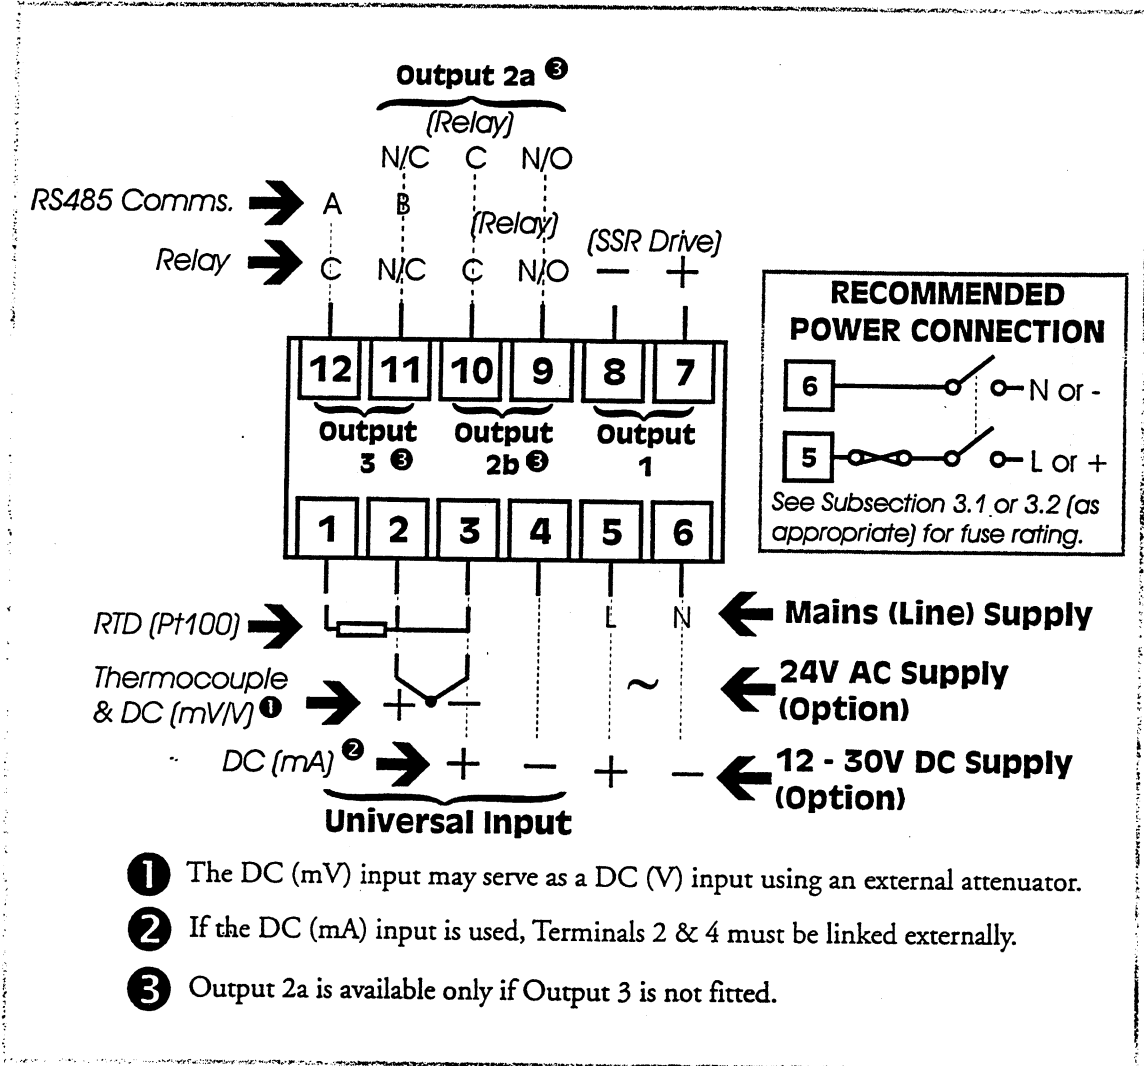

Figure 3-1 Rear Terminal Connections
CAUTION: This equipment is designed for installation in an enclosure which provides adequate protection against electric shock. Local regulations regarding electrical installation should be rigidly observed. Consideration should be given to prevention of access to the power terminations by unauthorised personnel. Power should be connected via a two-pole isolating switch (preferably situated near the Controller) and a 1A fuse, as shown in Figure 3-1.
This version operates on 12 - 24V AC 50/60Hz or 12 - 30V DC supply. The power consumption is approximately 4W. Connection should be made via a two-pole isolating switch and a 315mA slow-blow (anti-surge Type T) fuse (see Figure 3-1).
DC (mV) inputs are connected to Terminals 2 and 3 in the polarity shown in Figure 3-1; DC (V) inputs are connected to the same terminals with the same polarity but require an external attenuator. DC (mA) inputs are connected to Terminals 3 and 4 in the polarity shown in Figure 3-1 with Terminals 2 and 4 linked externally.
Phase 1: DC mV Linear Input	50mV DC across Terminals 2 & 3 in the polarity shown in Figure 3-1.
Phase 3: DC mA Input	20mA source current connected to Terminals 3 & 4 in the polarity shown in Figure 3-1.